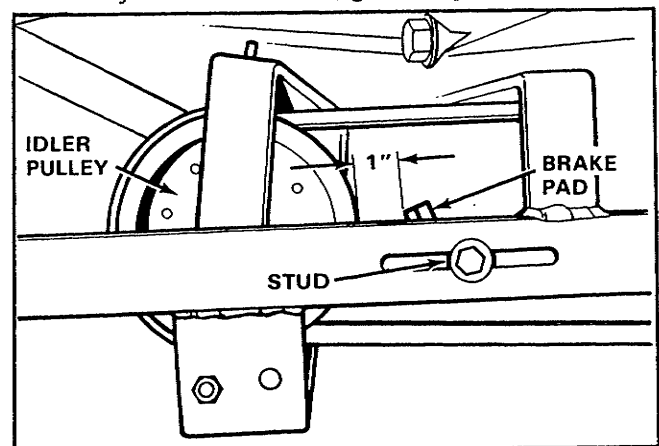

Figure 13. Brake Adjustment
1. With the PTO engaged (lever down) measure the gap between the brake pad and the idler pulley. See figure 13. If it measures 1 inch (25 mm) adjustment is correct. If not, go to step 2. If adjustment is correct, go to step 3.